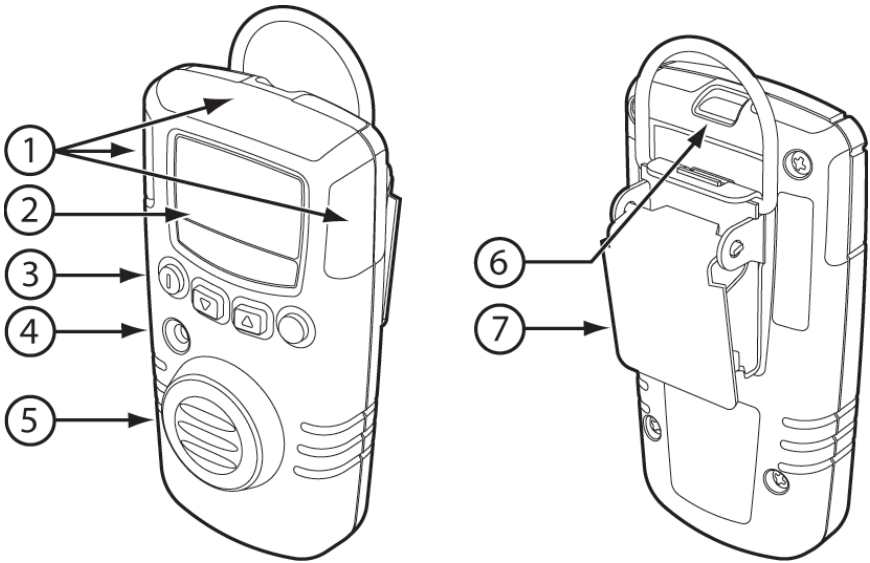

Figure 1. XD Gas Detector
- ***Figure 1*** and ***Table 3: XD Detector*** (describes the detector's components).